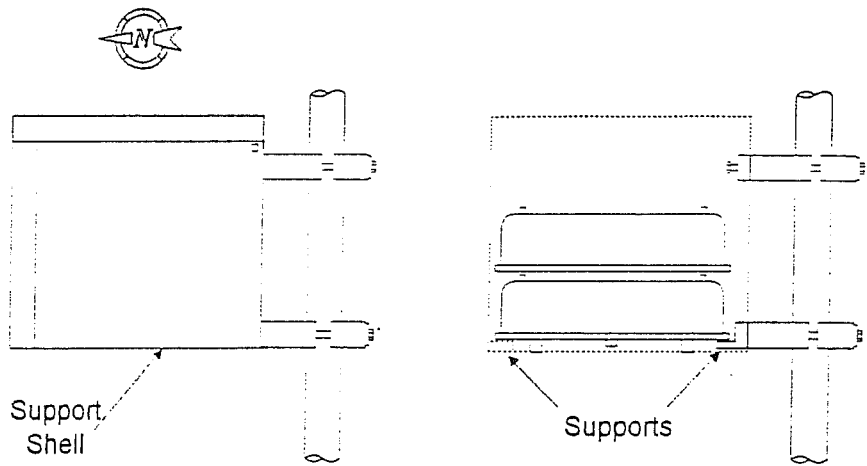

Figure 4-13
6. Now slide the lower clamp up into the lower section of the support shell and tighten the all the mast clamp bolts firmly. See Figure 4-13.
8. Take the data logger and place it into the shell with the connectors facing down and the tab at the rear towards the mast (see Figure 4-13). Note that the "ears" on the case of the data logger fit around the guides inside the shell and rest on stops at the bottom of the guides. The tongue at the back of the data logger rests on the tongue on the lower clamp. Make sure the data logger is resting securely on all three supports!